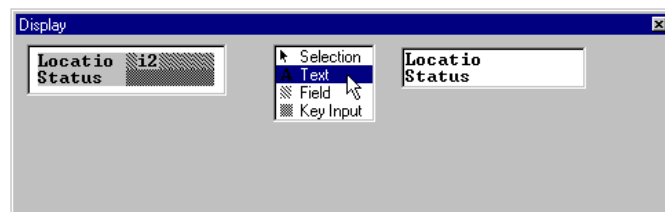

Figure 3-70 “Location” Handler Display - Text Tool Selected
59. To correct **Locatio** in the display, select **Text** from the **Display** window tool palette. The text entries are shown in the edit box (Figure 3-70).